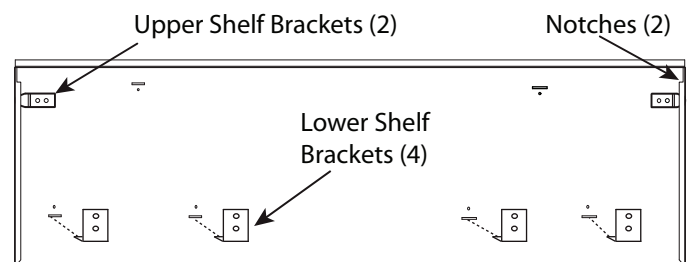

Figure 18: 48" Back of Wall Plate
2. Mount the (2) upper shelf brackets and the (3) lower shelf brackets on the 30" & 36" models or (4) lower shelf brackets for the 48" model at the locations outlined on the templates. Secure with (10) 1" (25.4 mm) screws provided.
5. Install the wall plate by setting the corner notches (back of wall plate) atop the (2) upper shelf brackets.
6. Slide the shelf upwards until the bottom engages with the (3) lower brackets on the 30" & 36" models or (4) brackets for the 48" models (Figure 18).